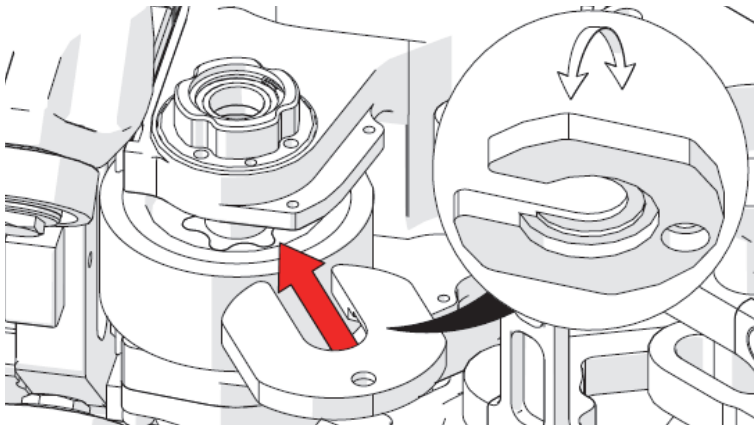

Figure 2-17 Insert the wheel removal tool
19. Slide the wheel removal tool between the wheel and the axle arm, ensuring the counter-bored side is facing down towards the wheel (see Figure 2-17 on page 94).